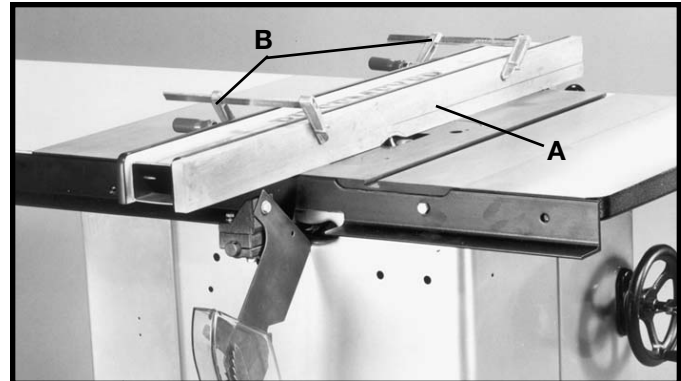

Fig. 62
It is necessary when performing special operations such as moulding to add wood facing (A) Fig. 62, to one or both sides of the rip fence, as shown. The wood facing is attached to the fence with two clamps (B). 3/4 inch stock is suitable for most work although an occasional job may require 1 inch facing.